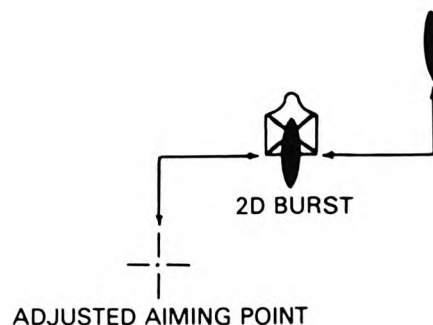

Figure 4.
b. If the gunner misses the target with his initial burst, he selects a new aiming point on the ground the same distance from the target as the center of impact of the initial burst but in the opposite direction, and fires a second burst (figure 4).